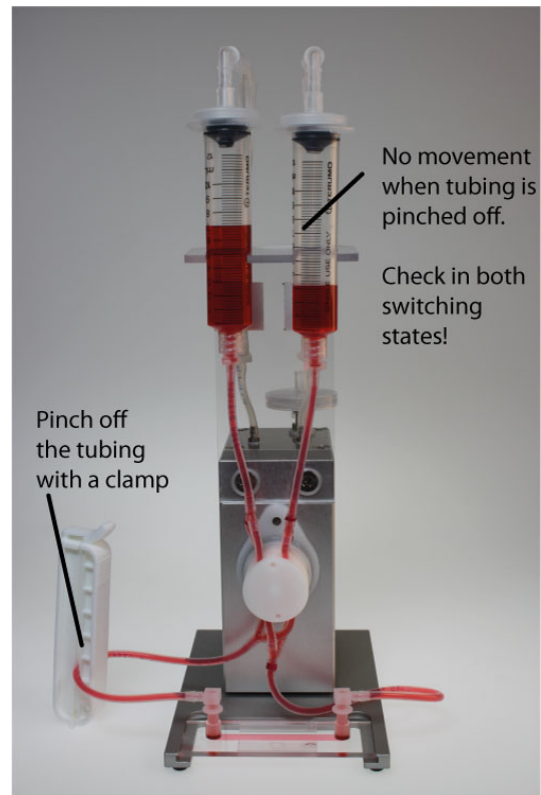

Figure 29 – Pinch-test for checking the correct insertion of the tubing into the valve.
2. Pinch the tubing in the lower loop near the Female Luer Coupler (Figure 29).